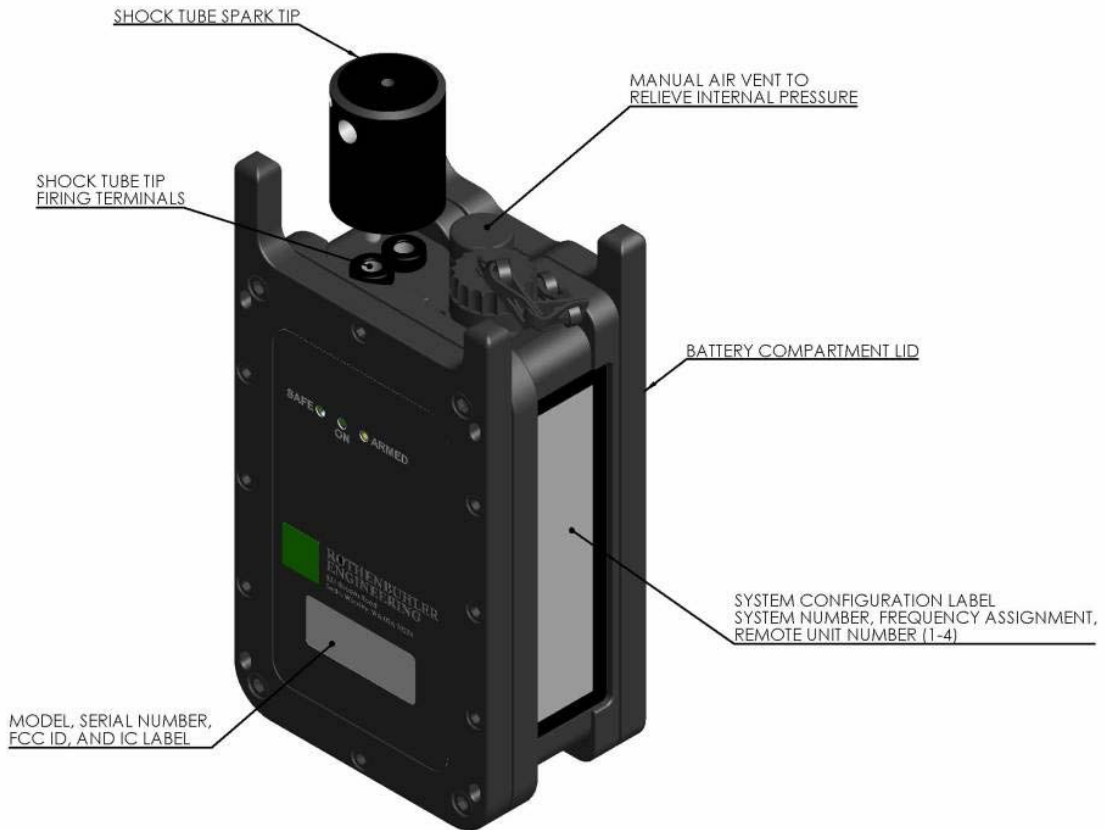

Figure 2-7 RSTI Angled View with Shock Tube Spark Tip
2.6.3. Figure 2-7 shows the installation of the Shock Tube Firing Tip onto the Firing Terminals on the RSTI.